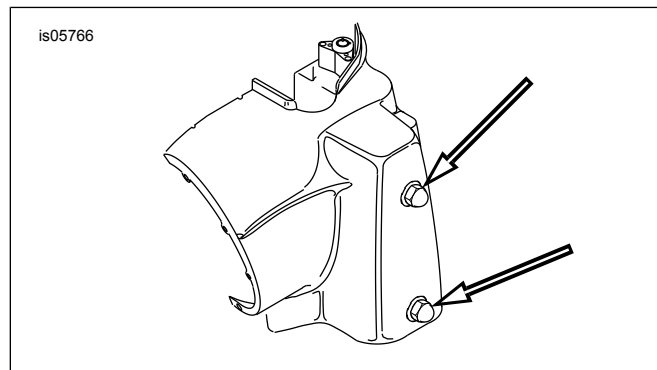

Figure 1. Headlamp Nacelle Fasteners (FLHR Models)
2. See FLHR Ape Handlebar Riser Configuration . To avoid possible damage to the brake line, verify that the edge protectors (10) remain installed on the inside edges of the headlamp nacelle (11). Replace the edge protectors if missing, cracked or damaged.
3. See Figure 1. Loosen the two acorn nuts securing the left half of the nacelle (see arrows). Repeat for the right half of the nacelle.